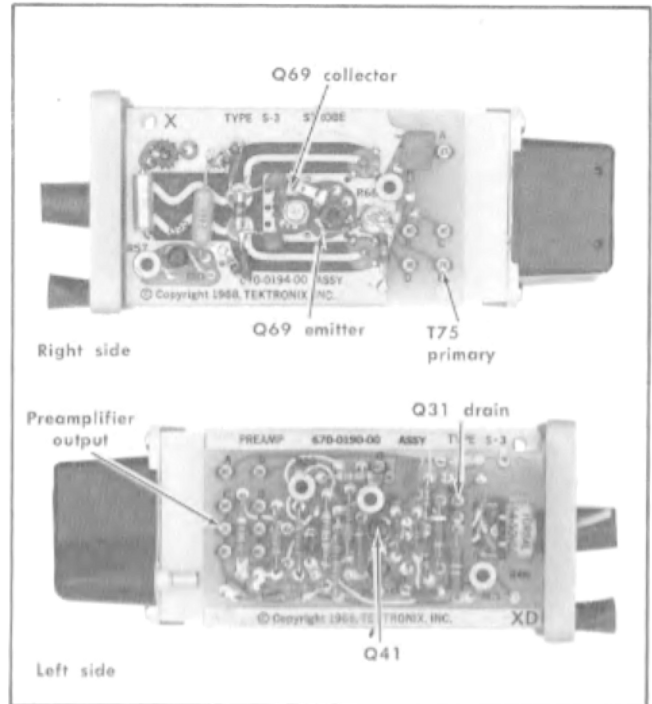
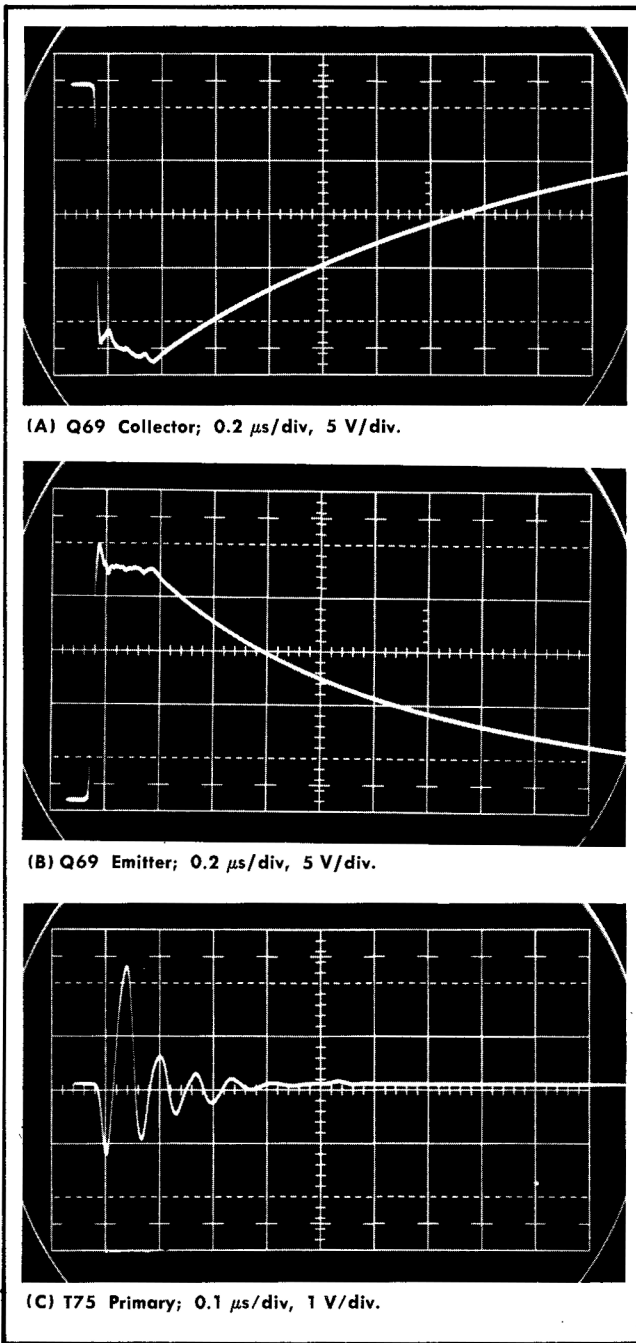

Fig. 5-2. Test point locations for step 2.
Fig. 5-3. Checking Avalanche drive and output.
d. Use the test oscilloscope with  $1\times$  Probe, to check for proper operation of Q69. The probe connections are shown in Fig. 5-2, and the general nature of the signals is shown in Fig. 5-3. Fig. 5-3A and B show the general amplitude for Q69 collector and emitter signals. Fig. 5-3C shows the typical drive signals at T75 primary (square terminal E of Strobe board) while the head is on the extender cable.
the displayed noise, so it is best to have several transistors of this type on hand and grade them for low noise using step 10). If all signals of Fig. 5-3 are present, check the Pre-amplifier output (square terminal E of Preamp board). If there is no signal at the Pre-amplifier output, check the sampling diodes and Q31 in the following manner.